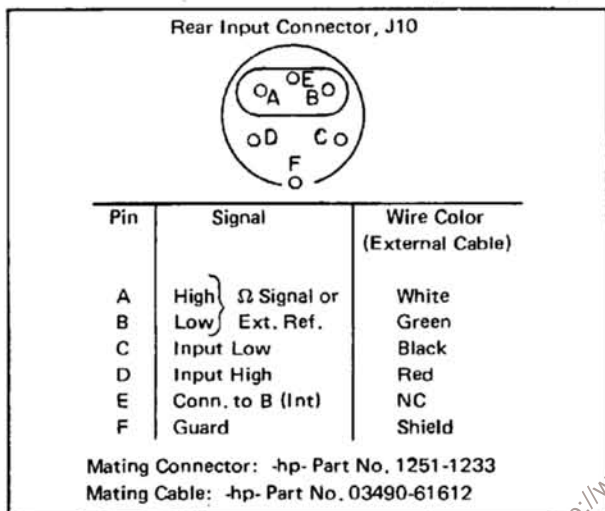

Figure 2-7. Rear Input Connector and Cable.
2-35. Options 020 and 030 provide a rear panel input connector in parallel with the front panel terminals. This connector is shown in Figure 2-7. The inner guard of the 3490A Rear Input connector is internally connected to pin B. Do not connect these points together externally. The mating connector for this rear panel input is -hp- Part No. 1251-1233, Component Manufacturing Service, Inc. Part No. A-1369. A six-foot cable, -hp- Part No. 03490-61612, is supplied with Options 020 and 030. This cable is terminated at one end by the rear input
mating connector; the other end is unterminated. Figure 2-7 also shows the wire colors in this cable.
12. Rear Panel input connector in parallel with front terminals. Included with Options 020 or 030. See Figure 2-7.